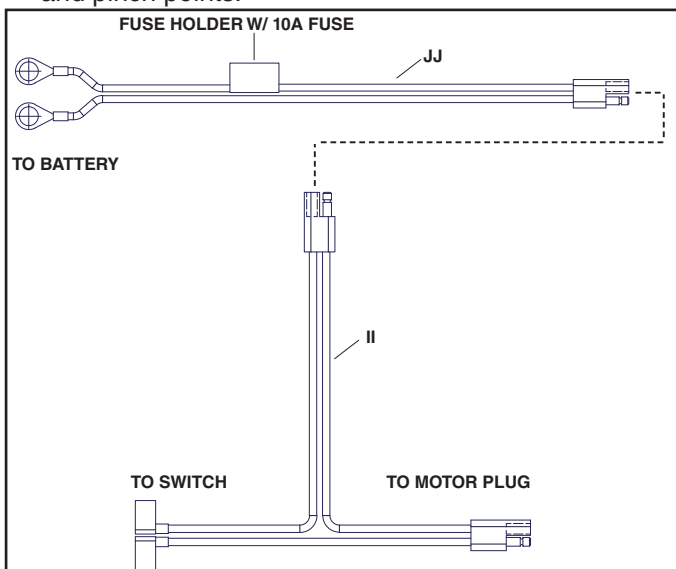

FIGURE 18
STEP 18: (SEE FIGURE 18)
- Plug the battery wire harness (JJ) to the wire harness (II). See figure to show which connectors.
- Attach ring terminals from the battery wire harness (JJ) to the correct battery terminals (Note: Red to Red and Black to Black).
- Use the nylon cable ties (DD) provided to safely secure the wiring away from hot engine parts, rotating parts and pinch points.